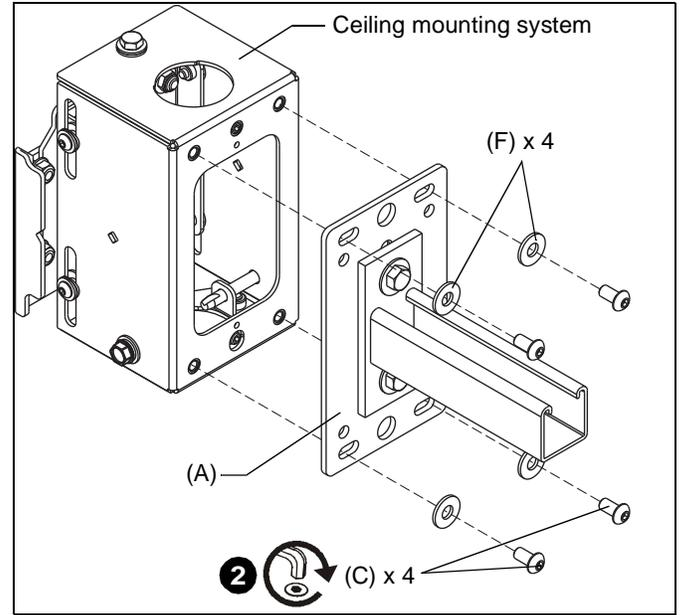

Figure 2
2. Connect mount back plate (A) with attached metal standard strut channel accessory to the ceiling mounting system using four 5/16 x 5/8" button head cap screws (C) and four 5/16" flat washers (F). (See Figure 2)